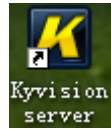

Figure 15 Completing Uninstall
4.Uninstall is completed, as shown in Figure 15. Click <OK>.